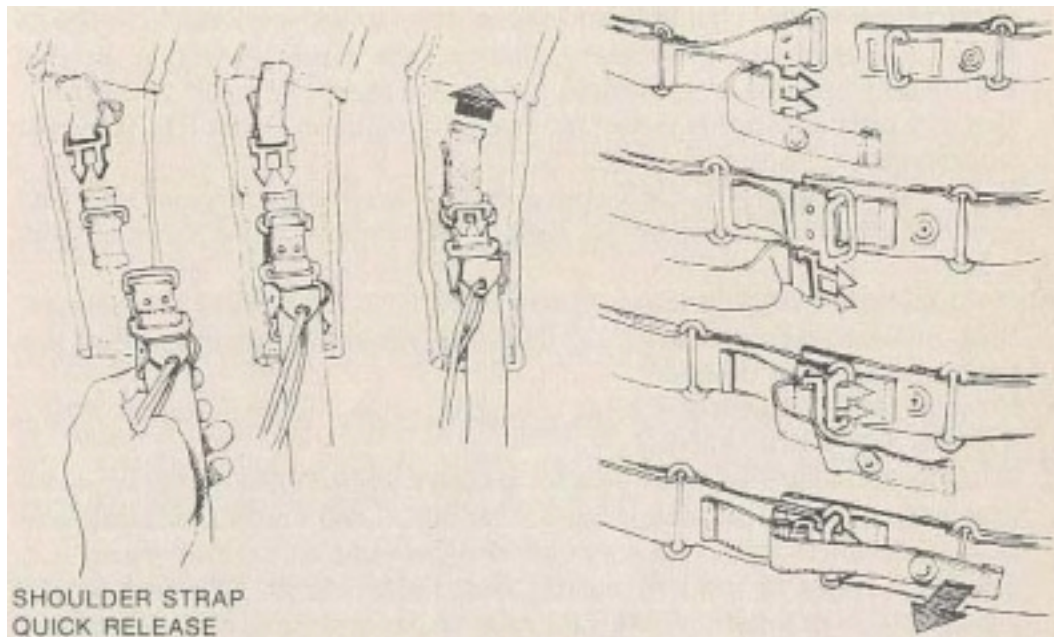

Figure 13. Shoulder Strap and Waist Strap Quick Releases
A. Using shoulder straps and waist strap, secure assembled radio set to back of carrier. Both the left shoulder strap and the waist strap have quick release assemblies, which should be secure as shown in figure 13. Adjust shoulder straps, waist strap, and lower backstrap for maximum comfort.